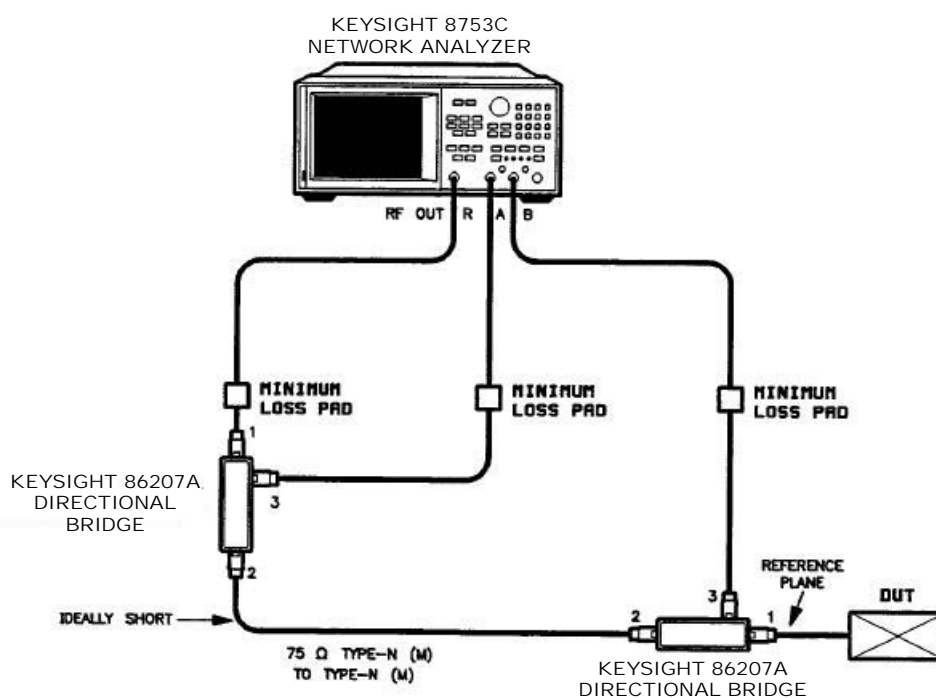

Figure 2-4 Vector impedance measurement setup
- 1 Connect the equipment as shown in Figure 2-4.